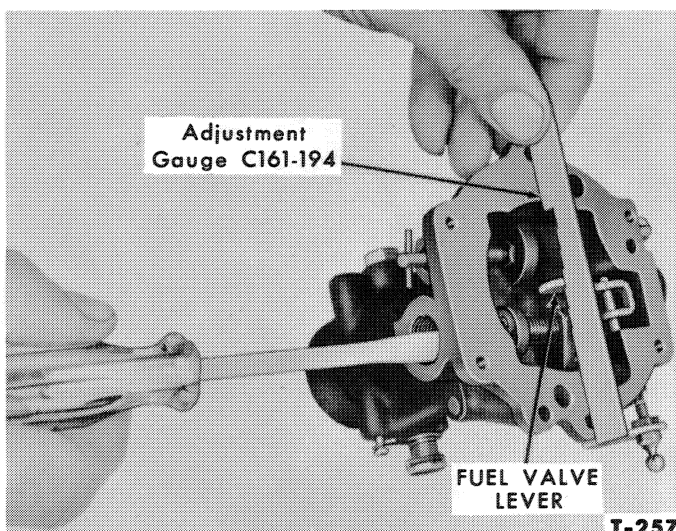

Figure 11—Diaphragm Lever Adjustment
4. Position the fuel inlet valve and spring assembly in the carburetor, then thread the fuel inlet orifice (36) part way into the carburetor.
5. Insert the tip of the fuel valve lever (13) into the slot of the fuel inlet valve stem (39). Install the axle (7), new fiber washer (8) and axle retainer (9) in the carburetor.
6. Place Adjustment Gauge C161-194 on the diaphragm mounting surface as shown in Figure 11. Turn the fuel inlet orifice as necessary until the tip of the fuel valve lever contacts the gauge. Secure the fuel inlet orifice (36), Figure 6, with a new nylon plug (23) and set screw (22).